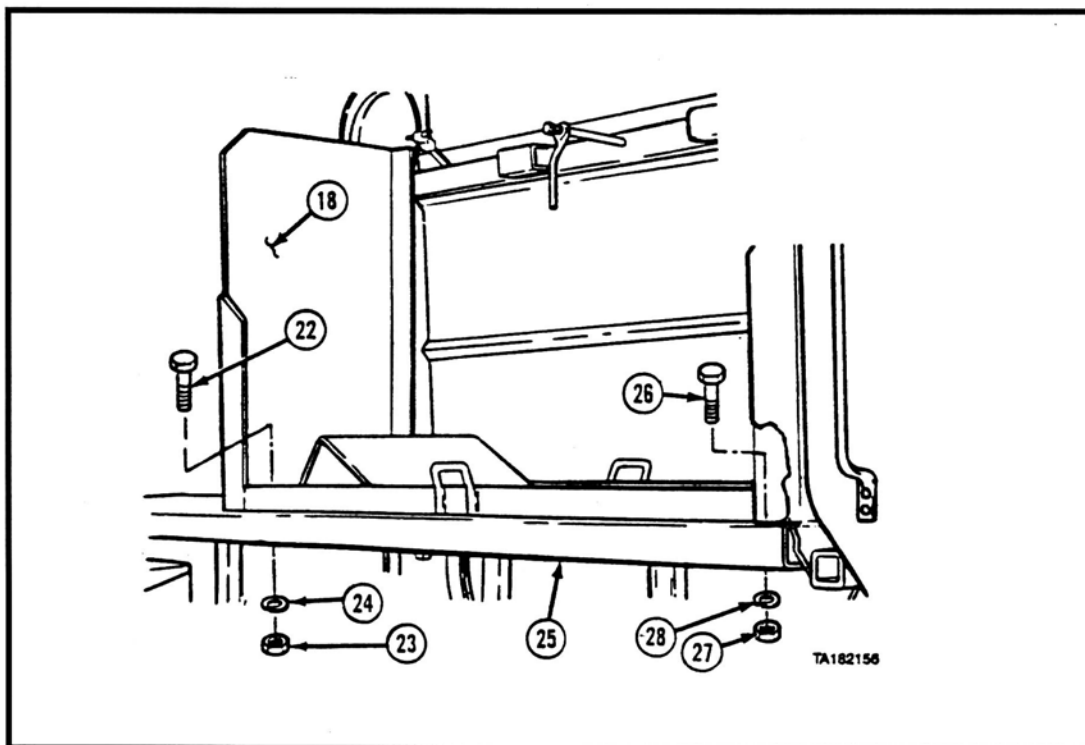

Figure 8. Loosen the Tire Carrier.
- b. Remove the four screws (Item 22 in Figure 8), nuts (23), and lockwashers (24) from the Tire Carrier (18) and Fender (25).
- c. Remove the two screws (26), nuts (27), and lockwashers (28).